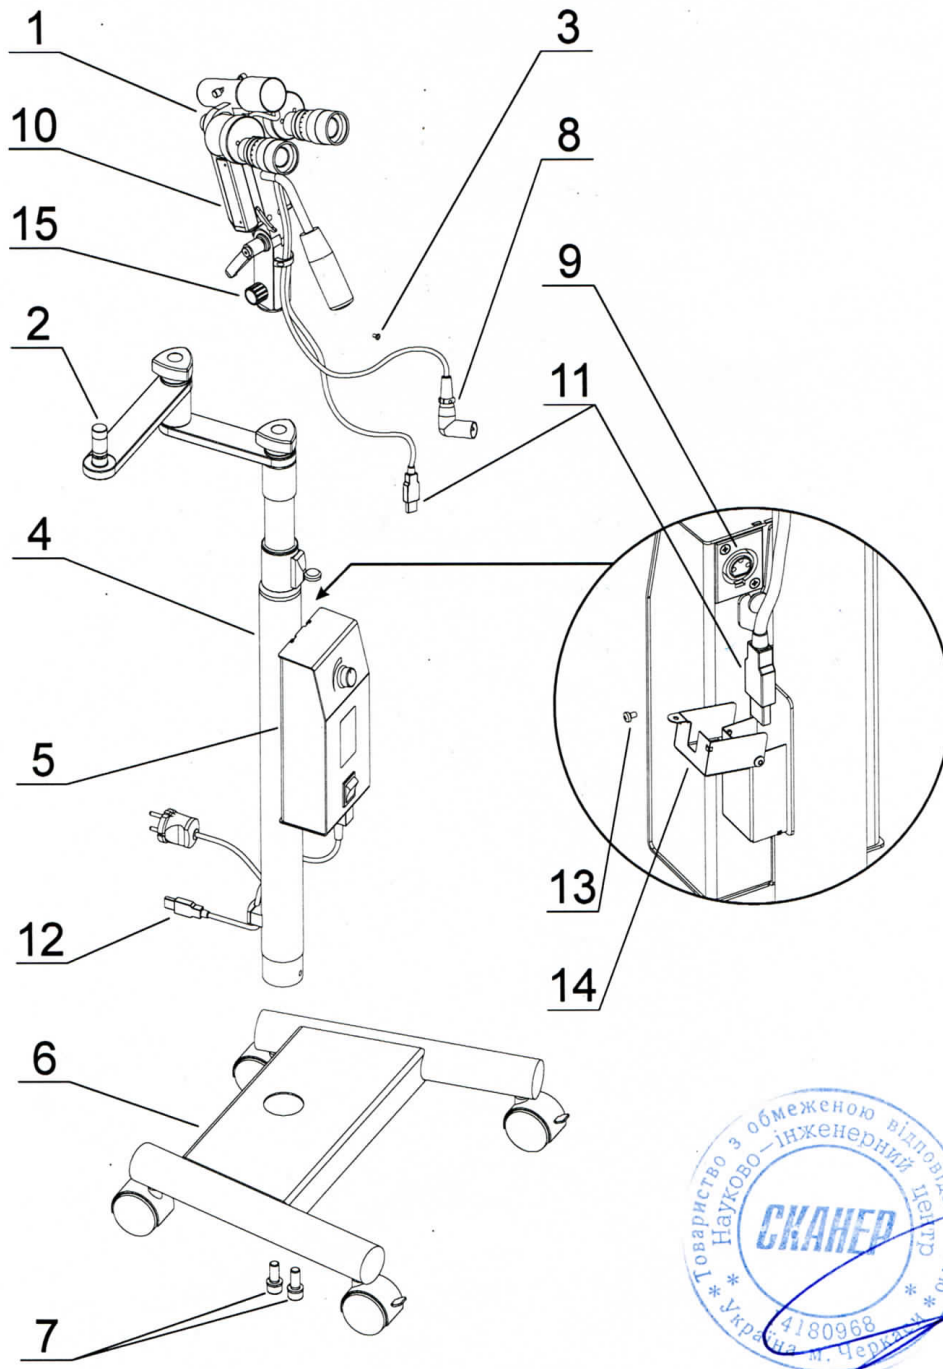

Figure 4 – Assembly diagram for the colposcope with the video system.
2) Insert the telescopic leg 4 (fig. 4) into the basis 6 and fix it with screws 7 using the hex-nut wrench included into the delivery set of the colposcope.
4) Unscrew the knob 15 and screw 3 (fig. 4), install the colposcope head 1 with the arm onto the arm axis 2, fasten it with the screw 3 against the stop and screw the knob 15 back.